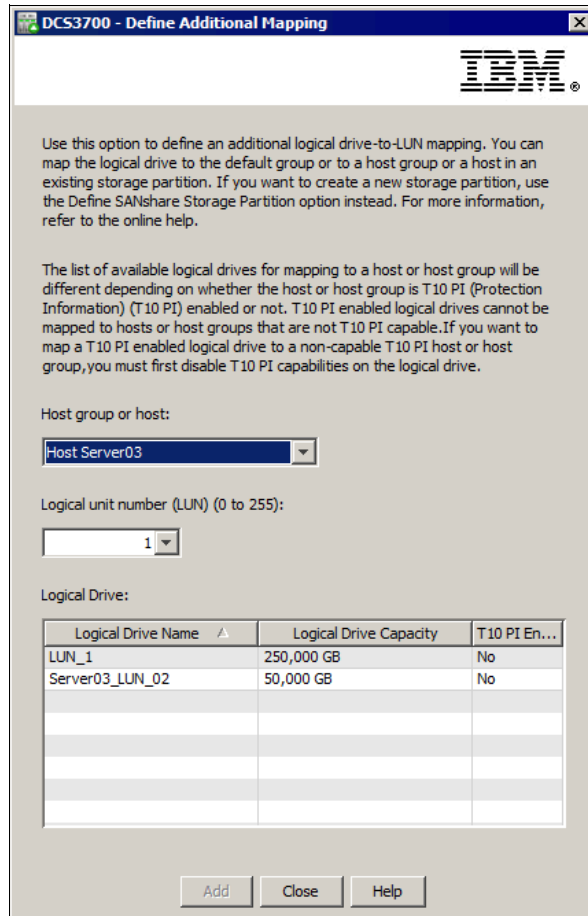

Figure 10-22 Define Additional Mapping - select logical drive
2. In the Define Additional Mapping window (Figure 10-22 on page 347), select the logical drive that you want to map to this host group or host, and assign the correct LUN number. Your host group or host is already preselected. If you select a logical drive in the Undefined Mapping section for additional mapping, you must select the host or the host group where it must be mapped and the correct LUN number. In our example, the logical drive is preselected.